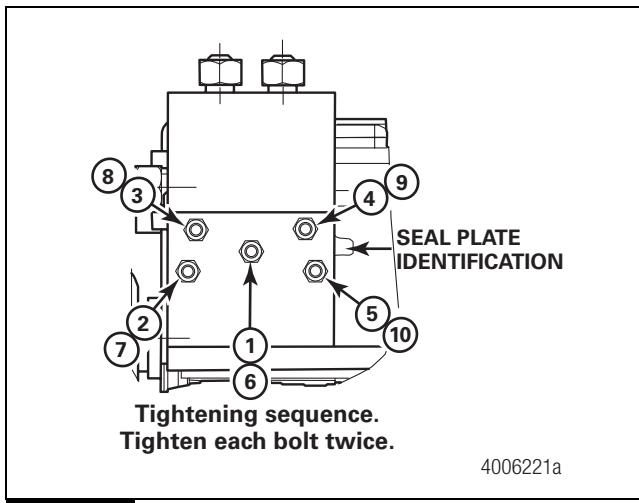

Figure 5
- Place a screw into the center mounting hole of the relay valve. Use a hex-head socket tool for positioning. Place the new relay valve seal onto the relay valve using the screw to align the seal. The orientation should match Figure 5. Position the relay valve against the HCU. Thread the screw into the HCU.
- Use a torque wrench to tighten all five screws to 71 in-lb (8 N·m) following the numbered sequence illustrated in Figure 5.